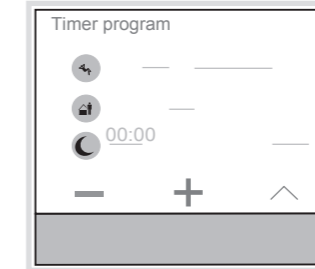

Figure 13: Setting the switching time
- The display changes for setting the switching time (figure 13).
- Set the switch-on/switch-off time with — / + (figure 13).